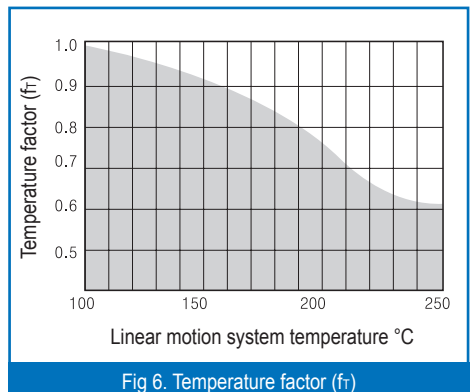

Fig 6. Temperature factor (f_T)
- f_T : Temperature factor (fig 6.)
If the temperature of the linear system exceeds 100°C, the rating life span will be shortened. (fig 6.)